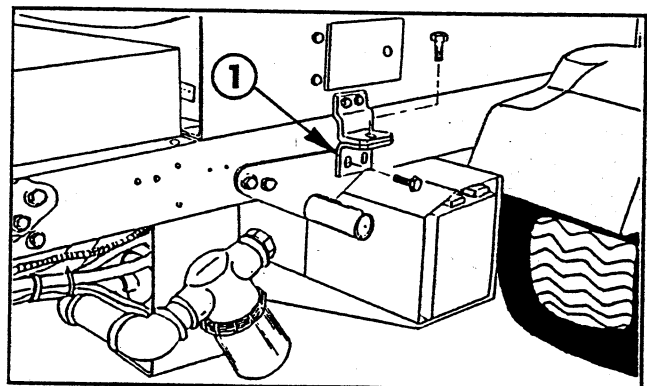
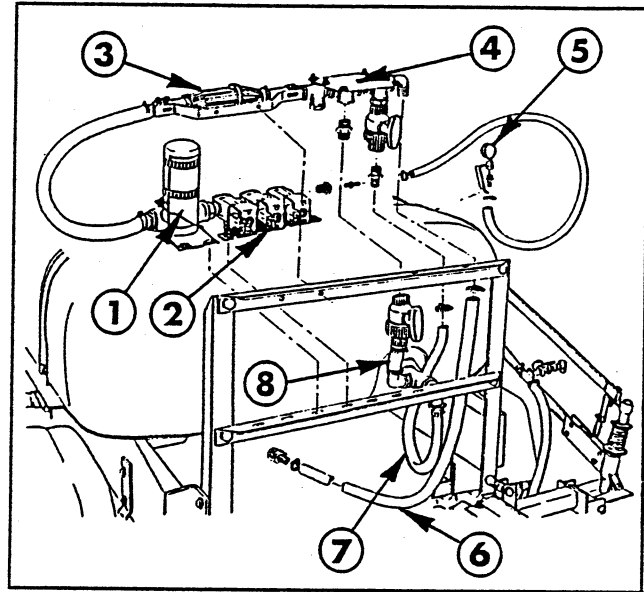

FIG. 11
FIG. 16
39. Locate and remove the (2) 1/2" bolts on each side of the vehicle frame as shown and install the attachment mounting bracket using the bolts earlier removed. Re-tighten the nuts and bolts securely (FIG. 11).
motorized control valve and the 1" hose barb in the inlet port. Connect the motorized control valve and the solenoid assembly by screwing the two together. See FIG. 16.
57. Apply thread sealer and install three hose barbs into the bottom of the solenoid assembly. Install 3/4" x 1/4" reducer bushing and 1/4" x 3/8" hose barb in the end of solenoid assembly. See FIG. 16.
58. Loosely attach the control valve bracket to the lower cross support with (2) 5/16" x 1" hex hd. cap screws, washers, and nuts.
59. Slide the solenoid mounting strap into position and mount the complete control valve and solenoid assembly to the cross support as shown in FIG. 16. Use (4) 5/16" x 1" hex hd. cap screws with (10) washers and (4) nuts. Place four washers on top of the mounting strap, two at each end in between the strap and the cross support, and four under the strap.
61. Connect the boom feeder hoses to the barbs with hose clamps. The (2) 3/4" x 50" hoses are to be attached to the hose barbs in the left and right solenoids. The 3/4" x 36" hose is to be attached to the barb in the center solenoid.
64. Assemble the pressure gauge and the 3/8" hose barb to the gauge bracket. Remove the protective cap and mount the bracket to the carriage bolt in the rear tank band, using a 5/16" hex nut and lock washer (FIG. 16).
65. Connect the pressure gauge to the solenoid assembly with the 3/8" x 36" hose. Secure the hose with hose clamps (FIG. 16).
66. Apply sealer and install the 1" x 1-1/4" hose barb into the end of the tee assembly and a 1" x 3/4" hose barb into the existing ball valve of the tee assembly (FIG. 16).
67. Remove the pipe plug in the bottom of the middle tee. Apply sealer and install a 1" close nipple, 1" ball valve, and a 1" x 1" hose barb (FIG. 16).
68. Mount the tee assembly and bracket to the upper cross support with (2) 5/16" x 1" hex hd. cap screws, flat washers, lockwashers, and nuts (FIG. 16).
70. Mount the flowmeter bracket to the upper crossmember using (2) 5/16" x 1" hex hd. caps screws, flatwashers, lockwashers, and nuts. See FIG. 16.
71. Slide the inlet end of the flowmeter assembly on the 1-1/4" hose barb found in the tee assembly. Secure with a hose clamp. See FIG. 16.
73. Connect one end of the 1" x 30" hose to the motorized control valve and connect the opposite end to the adapter in the flowmeter connector hose. Secure with hose clamps (FIG. 16).
74. Apply sealer and install the 1" 90 degree hose barb in the rear tank tee (FIG. 16).
the vehicle under the tank, connect the other end of hose to the hose barb on the right side of the tee assembly and secure with a hose clamp. See FIG. 16. Secure hose at cable mounting bracket and rear cross member with tie straps.
77. Connect the 3/4" x 28" agitator hose to the first ball valve and connect the other end to the hose barb on the rear of the tank. Secure the hose with hose clamps (FIG. 16).
78. Connect the 1" x 5" connector hose between the ball valve in the center tee and the 90 degree hose barb in the left side of the rear tank tee. See FIG 16. Secure with hose clamps.
81. Mount the radiator cover to the vehicle frame using the (4) 3/8" x 1" hex hd. cap screws and (4) flat washers. On some models, it may be necessary to use the (2) nuts provided to mount the cover at the rear mounting holes.
**83.** Secure the tank skid to the vehicle frame by installing the (2) 1/2" bolts, (4) washers, and (2) locknuts through the attachment mounting brackets (FIG. 11). Tighten fasteners securely.